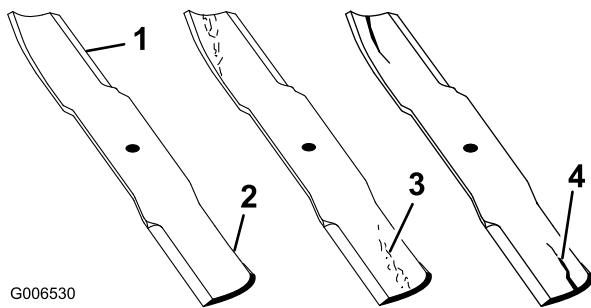

Figure 85
1. Inspect the cutting edges (Figure 85).
2. Inspect the blades, especially the curved area (Figure 85).
If you notice any damage, wear, or a slot forming in this area (Figure 85), immediately install a new blade.